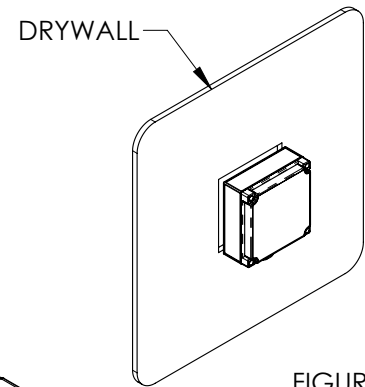

FIGURE 1
2. Mark and cut out section of drywall allowing approximately ½" clearance around the PQC(F)320 enclosure. (See Figure 1)